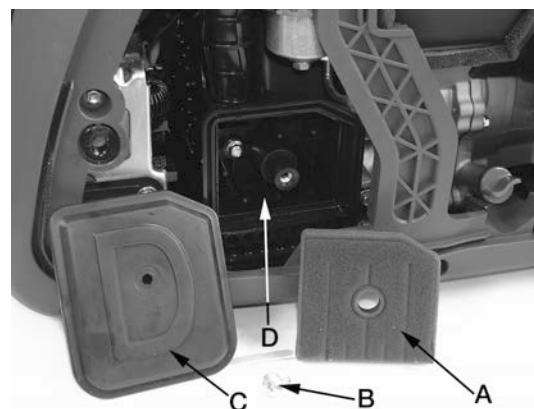

Figure 3
The air cleaner filter (A) Fig.3 should be checked before every start-up and after prolonged storage to make sure it is clean and in good condition. The following steps should be done when checking the air cleaner filter;
- 2) Undo the large screw (B) Fig.3 and remove the air cleaner cover (C).
- 3) Remove the filter (A).
- 5) Reposition filter in air cleaner assembly (D), reinstall cover and secure it with the large screw.